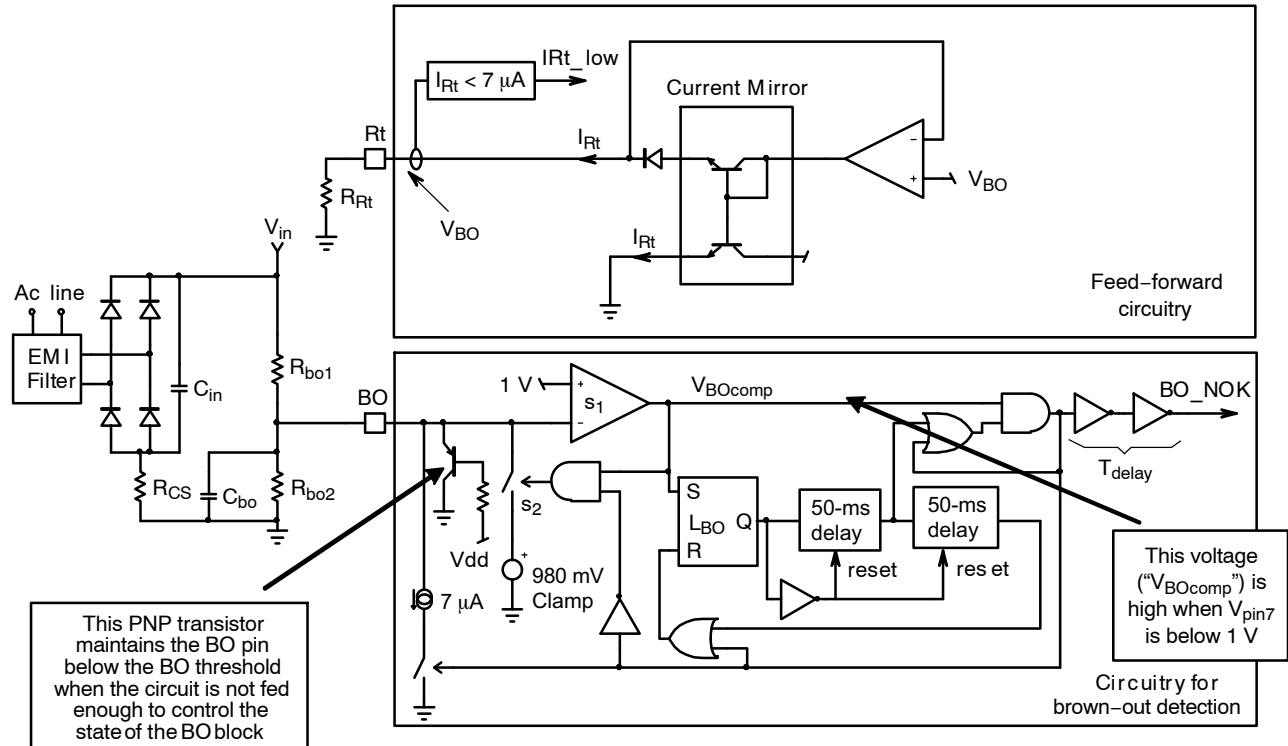

Figure 19. Brown-out Block
In nominal operation, the voltage applied to pin7 must be higher than the 1 V internal voltage reference. In this case, the output of the comparator BO_Comp (V_{BOcomp}) is low (see Figure 19).
can be detected. This is the role of the second 50-ms timer of Figure 19:
- The OPAMP output is separated from pin7 (Figure 19) to prevent the operational amplifier from maintaining 1 V on pin7 (as done by the switches s_1 and s_2 in the representation of Figure 19). Instead, V_{pin2} drops to the value that is externally forced (by V_{in} , R_{bo1} , R_{bo2} and C_{bo2} in Figure 19). As a consequence, the OPAMP output remains high and the “BO_NOK” signal stays high until the line recovers.
As shown by Figure 19, The BO circuit also generates an internal current proportional to the input voltage average value (I_{Rt}). The pin7 voltage is buffered and made available on pin 3. Placing a resistor between pin 3 and ground, enables to adjust a current proportional to the average input voltage. This current (I_{Rt}) is internally copied and squared to form the charge current for the timing capacitor of each phase. Since this current is proportional to the square of the line magnitude, the conduction time is made inversely proportional to the line magnitude. This feed-forward feature makes the transfer function and the power delivery independent of the ac line level. Only the regulation output (V_{REGUL}) controls the power amount. If the I_{Rt} current is too low (below 7 μ A), the controller goes in OFF mode to avoid damaging the MOSFETs with too long conduction time.